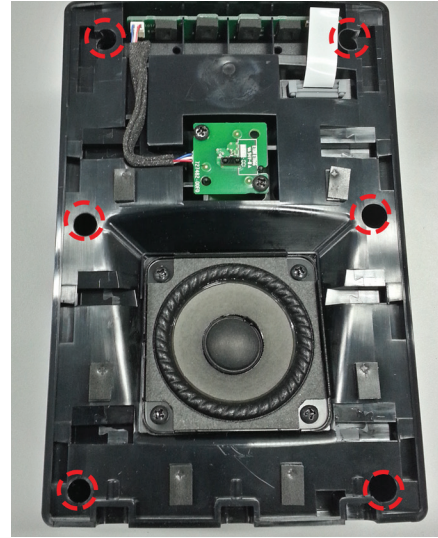

Figure 19. Cabinet, Screws
5.2 Figure 19. Remove the 6 screws securing the rear panel.